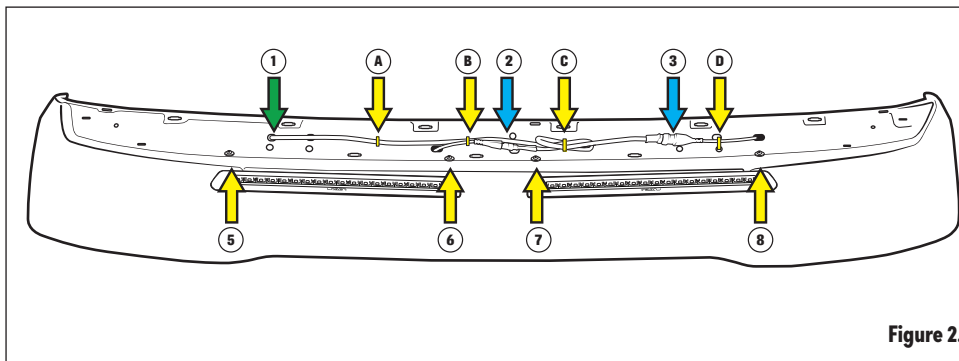

Figure 2.
Screw the LED-bars (9) to the fastening iron to the LED-bar with the supplied screw connections as shown in figure 1, enclosed in the box with the LED bars. Then screw the brackets in place by passing the hexagonal screw (1) with washer (2) from the front of the Sunvisor through the holes (5, 6, 7 and 8) as shown in Figure 2. On the back, thread on another washer (2) and tighten with an M6 lock nut (5). Pull the Y-cable (2) through hole (1) and connect the connectors from the LED-bars (2) and (3) to the Y-cable (2). Tighten the wiring with cable ties according to (A, B, C and D) in figure 2.